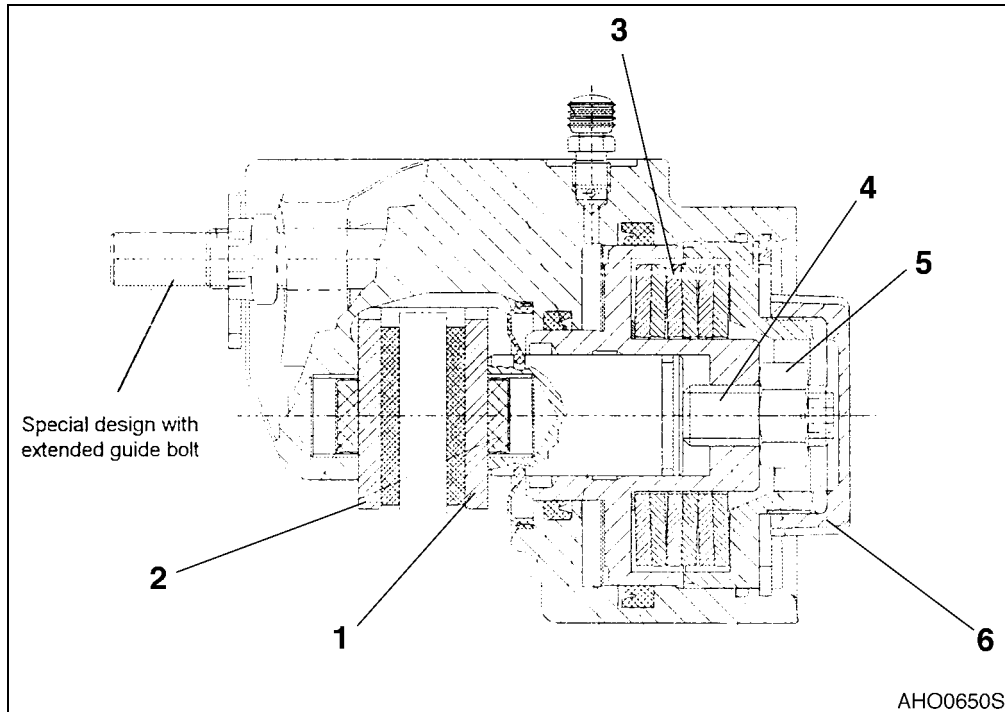
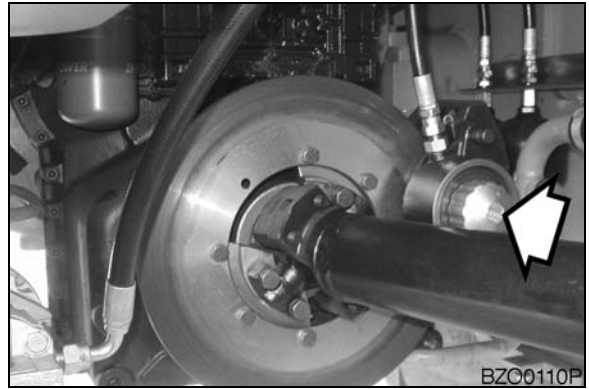

Figure 114
Figure 116
2. Release the screw cap (6, Figure 114 and Figure 116) and unscrew.
3. Release the lock nut (5, Figure 114) and turn the adjusting screw (4) counterclockwise until the brake disk is free.
4. Install lock nut (5, Figure 114) and screw cap (6) and tighten both as far as possible. This will protect the parking brake assembly from dirt.
During this adjusting process, the parking brake must be released, i.e. the bank of cup springs (3, Figure 114) must be completely pretensioned.
2. Release the screw cap (6, Figure 114) and unscrew.
3. Release the lock nut (5, Figure 114) (size 24 or 30) and turn the adjusting screw (4) with socket wrench (size 8 or 10) clockwise until the two brake pads (1 and 2) make contact with the brake disk.
4. Turn the adjusting screw (4, Figure 114) counterclockwise and set the clearance specified in the following table.
5. Hold the adjusting screw (4, Figure 114) in position with the hexagonal socket wrench and lock with the lock nut (5).
6. Mount the screw cap (6, Figure 114) and tighten as far as possible manually.